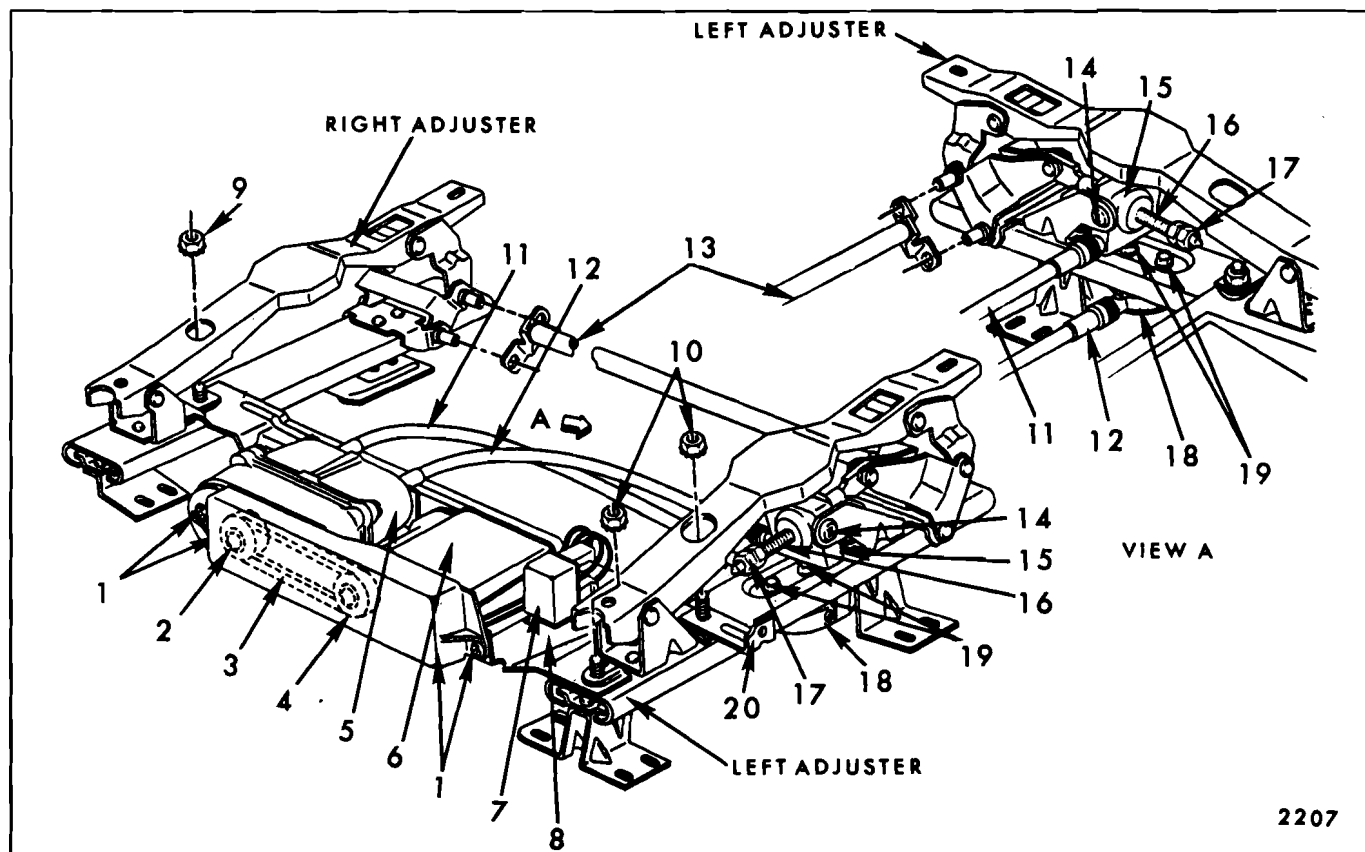

Fig. 15-46—Four-Way Bucket Seat Adjusters
4. Remove nuts securing motor and transmission support to adjuster being removed (Fig. 15-46).
1. At front of seat remove motor and transmission drive belt cover attaching screws (Fig. 15-46) and remove cover.
2. Remove drive belt (Fig. 15-46) from both motor and transmission drive pulleys. Pulleys may be removed from either motor or transmission by pulling pulleys off their respective shafts.
- Remove motor and transmission drive belt cover and remove drive belt (Fig. 15-46).
3. Using a clutch type screwdriver or other suitable tool, remove shoulder screws securing linkage to vertical gearnut (Fig. 15-46).
4. Remove jackscrew "down" stop from jackscrew (Fig. 15-46).
3. As a bench operation, remove jackscrew-to-adjuster linkage attaching rivet and remove jackscrew from adjuster assembly (Fig. 15-46).
2. Using a clutch type screwdriver or other suitable tool, remove shoulder screws securing linkage to vertical gearnut (Fig. 15-46).
5. Remove screws securing horizontal actuator assembly to adjuster lower track; then, remove actuator from adjuster assembly (Fig. 15-46).